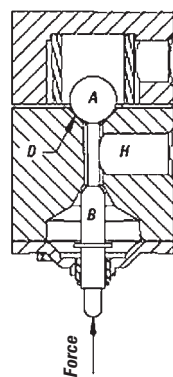

Figure 4 — Snap pilot
These pilots have two seats. The upper seat (D) is sealed by a ball (A). On Snap pilots (see Figure 4), the ball seat is a metal seat and on the Relief and Envirosave pilots, there is an elastomeric seat ensuring zero-leakage seals. The upper seat controls supply air and the ball is held in the closed position by the supply air pressure. When mechanical force upward from the thrust pin (B) is sufficient to overcome supply air pressure holding the ball to the seat, the ball snaps upward, supply air flows downward and out the output port (H), and the lower port is sealed by the spherical end of the thrust pin preventing supply air from escaping.